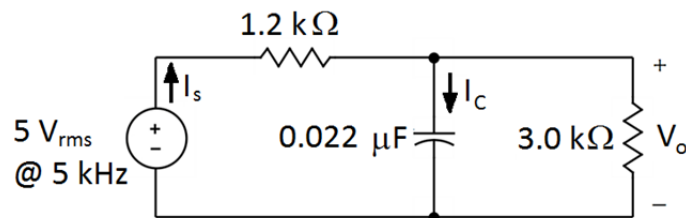

Figure 1: RC Circuit
1. For the circuit in Figure 1, calculate  $V_o$ .
2. For the circuit in Figure 1, calculate  $I_s$ .
3. For the circuit in Figure 1, calculate  $I_c$ .
Build the circuit in Figure 1 (using the function generator as the voltage source). Use channel 1 of the oscilloscope to measure the voltage from the function generator (i.e., input voltage) and channel 2 of the oscilloscope to measure the output voltage (**Vo**). Remember that both black clips from the scope probes must be connected to the ground node of your circuit.
In the prelab you calculated the phasor current through the capacitor for the circuit shown in Figure 1. Next, you will measure this current. To begin, let's display the current on the scope and see how well it compares with theory. However, there is a problem with displaying currents on the oscilloscope; it only displays voltages! Therefore we have to calculate the current from a voltage waveform.
In order to measure the source current  $I_S$  it is not necessary to use a shunt resistor because there already is a resistor in series with the source. You will now use channel 2 of the oscilloscope to measure the voltage across this series resistor (both magnitude and phase). Similar to part II, use Ohm’s law and the measured value of the 1.2-k $\Omega$  resistor to find  $I_S$ . How can you manipulate the circuit in Figure 1 to measure the voltage across the 1.2-k $\Omega$  resistor and the source voltage? Think carefully!! Remember that both black clips from the scope probes must be connected to the ground (negative) terminal of the function generator to avoid shorting out any circuit elements.
Build the circuit in the Figure 1, with the appropriate oscilloscope connections, and measure the magnitude and phase of the source current. How does the measured value of the current through the source compare to the theoretical value found in the prelab?